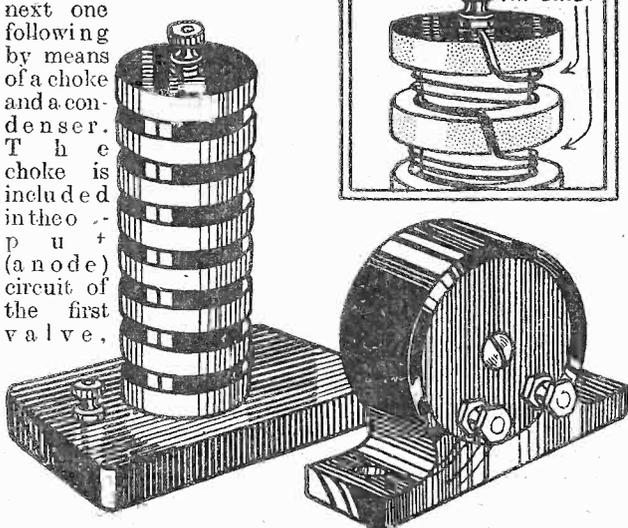

Fig. 1.—Two types of H.F. choke and (inset) how the wire is wound in sections.
**A** COMPONENT the function of which is to offer an easy path to direct currents but a difficult one to alternating currents. Chokes used in radio are of two distinct types, those used as a barrier against *high-frequency*, or very rapidly alternating currents, and those which offer a high impedance to *low-frequency* currents. A high-frequency choke is composed of a single coil of fine wire. This consists of a large number of turns wound round a bobbin in much the same way as a small tuning coil. As low self-capacity is a necessary feature the coil is often wound in sections as in the inset (Fig. 1).